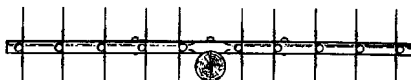

Figure 1. Type "A" Crossarm: Wires Not Transposed.
- 2.03 Figure 1 shows placement where wire is not point transposed.